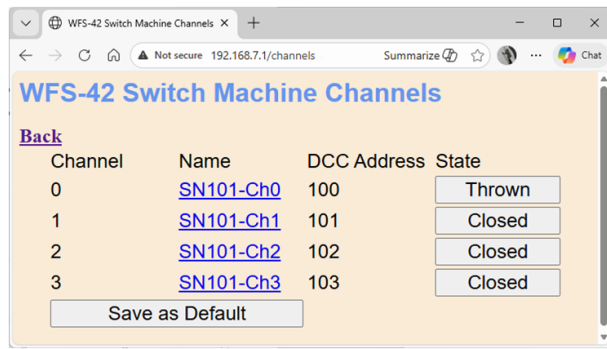

Figure 8. Control of Turnouts using WFS-42 Web Pages before WFS-42 joins home net
- (3) To test the switch machine channels, click or tap the Switch Machine Channels option. You will see the screen below. The names of each channel default to the last three digits of the serial number plus the channel number as shown in Figure 8. The DCC Addresses are important once you connect use a WFD-60 as they are used for identification. DCC Addresses in WFS-series modules should be unique across your layout.